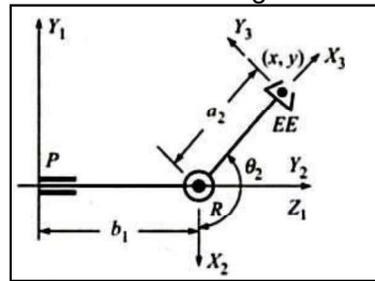

Figure 3
3. Find the location of end-effector if the values of $b_1 = 1m$, $a_2 = 0.5m$ and $\theta_2 = 120^\circ$ with use of DH expressions for the planar manipulator as shown in figure 3.